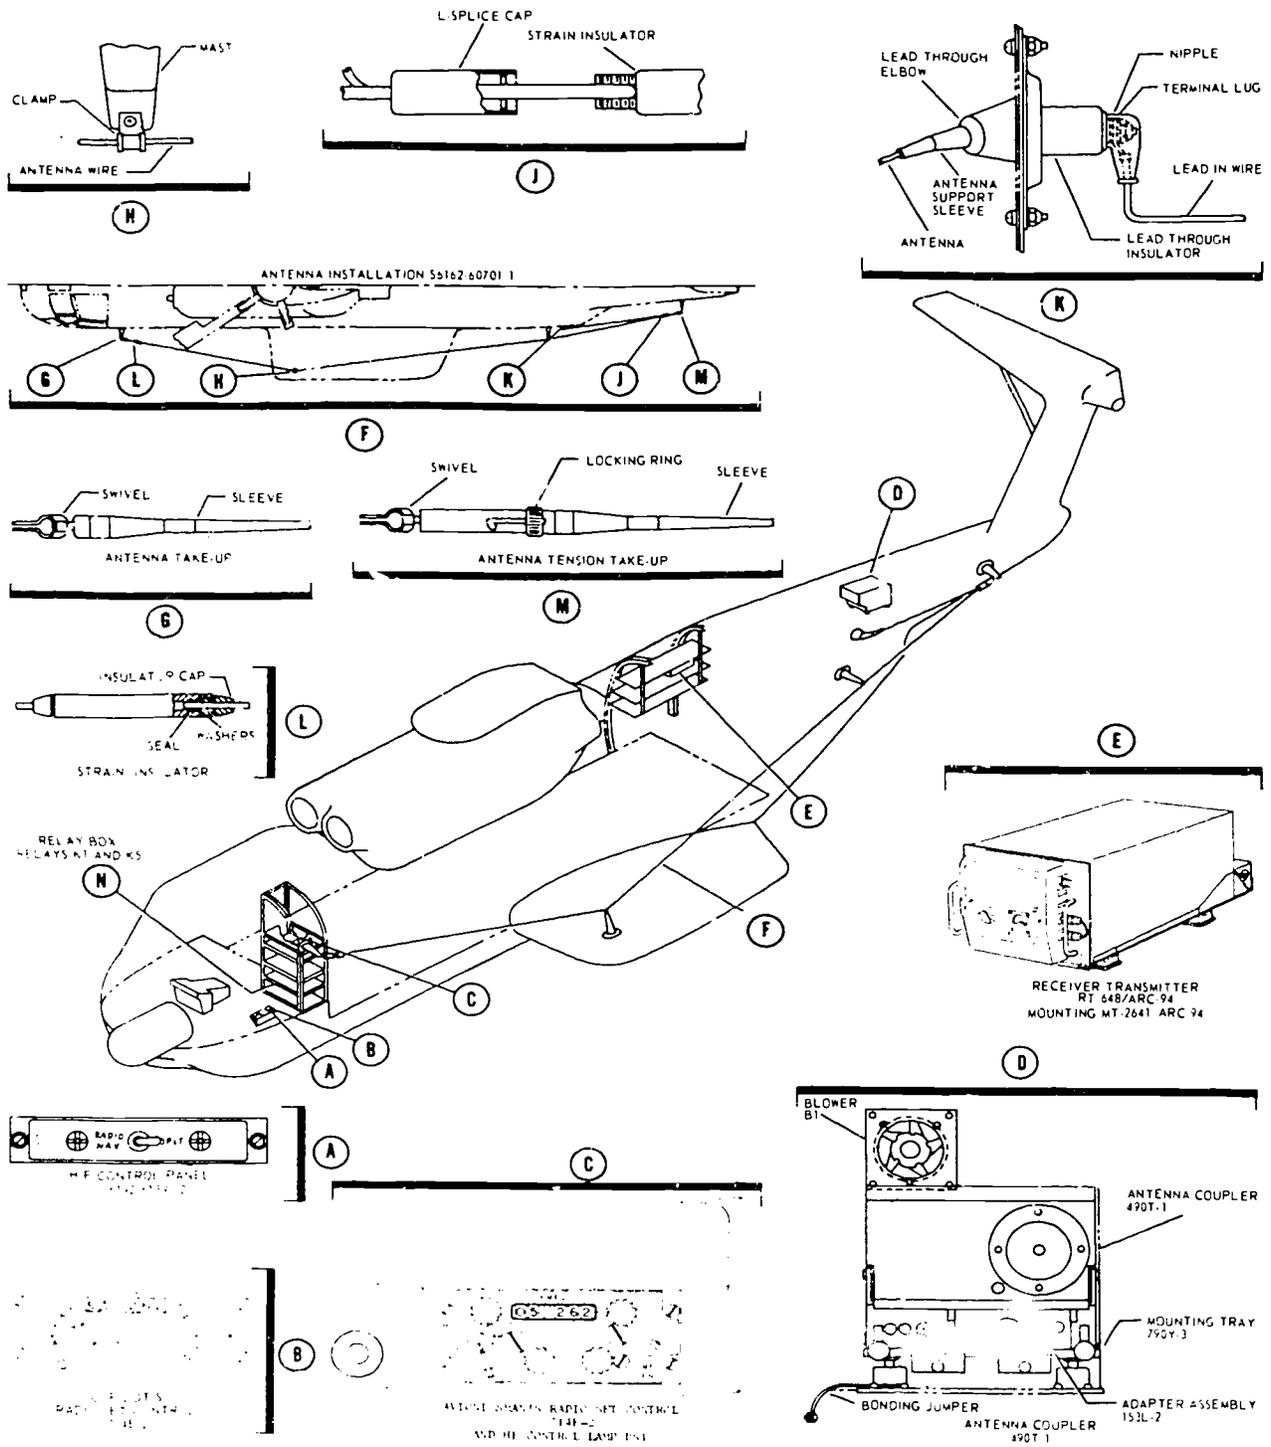
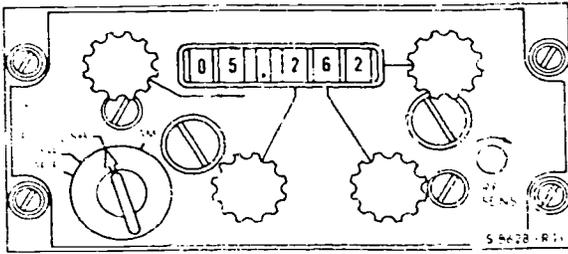
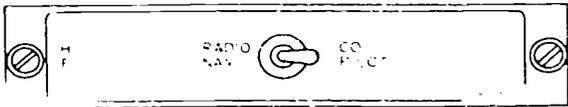
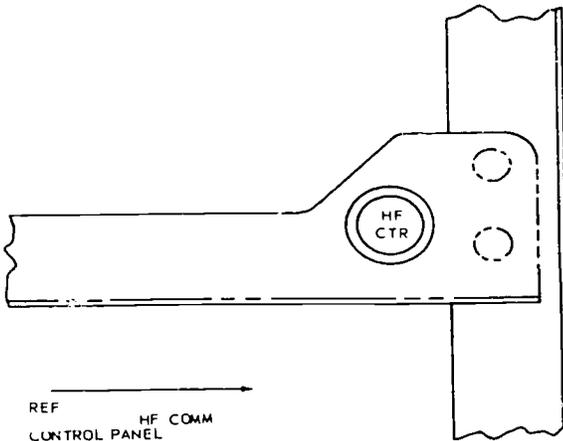

Figure 7-4. - HF/COMM system components - location diagram.
Figure 7-5. - HF/COMM radio AN/ARC-94.
Figure 7-6. - HF/COMM switch panel.
Figure 7-7. - HF/COMM control advisory light.
antenna, a coupler and a coupler blower. The system provides two-way voice communication between land-based, seaborne and airborne stations. The operating frequency range is from 2.0 to 29.999 MHz, divided into 28,000 discrete channels in one KHz increments. The HF/COMM system receives and transmits on either single sideband (USB or LSB) or amplitude modulated equivalent (AM). The receiver transmitter and the coupler blower are both powered by the No. 2 AC primary bus. The radio set uses 400-Hz three-phase 115-volt AC, and the coupler blower uses 400-Hz single-phase 115-volt AC power. Each unit is protected by a circuit breaker on the pilot's circuit breaker panel. The circuit breaker is under the general heading NO. 2 AC PRI. The receiver and transmitter circuit breaker is marked HF, and the coupler blower circuit breaker is marked HF COUPLER BLOW $\sqrt{3}$. The control circuit illuminates the avionicsman's HF (figure 7-7) control light and is powered by the DC primary bus. This circuit is protected by a circuit breaker on the pilot's circuit breaker panel. The circuit breaker is under the general headings DC PRI and is marked HIF. (See figure 7-4.)
The system is remotely controlled by either one of two control panels (figure 7-5) marked HIF. One control panel is located on the copilot's console and the other on the avionicsman's console. In addition, the copilot's console contains an HF/COMM switch panel (figure 7-6), with marked positions RADIO NAV and COPILOT. This switch permits the copilot to transfer control to or remove control from the avionicsman's control panel. The COPILOT position gives control of the set to the copilot, and the RADIO NAV position gives control of the set to the avionicsman. An advisory light (figure 7-7), marked HF CTR, is illuminated on the avionicsman's console above the HF/COMM control panel when the avionicsman has control. Both HF control panels contain a mode selector, four frequency selector knobs and associated display window, and an RF sensitivity control.
(See figure 7-5.)
1. HF/COMM Control Selector Switch (HF/COMM Switch Panel) - AS REQUIRED. (See figure 7-6.)